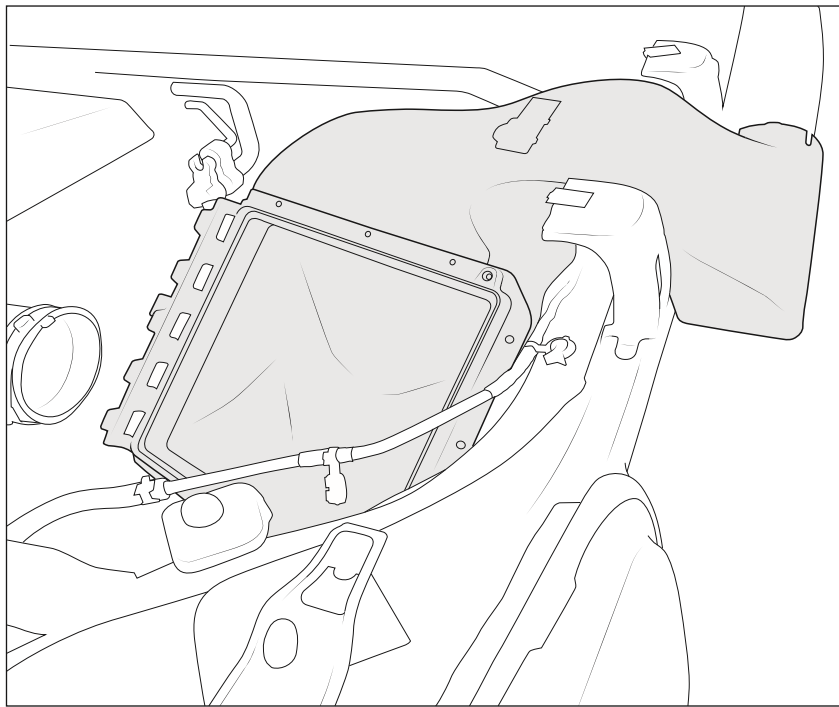

Figure 14
16. Install Airbox into Vehicle (fig. 14):